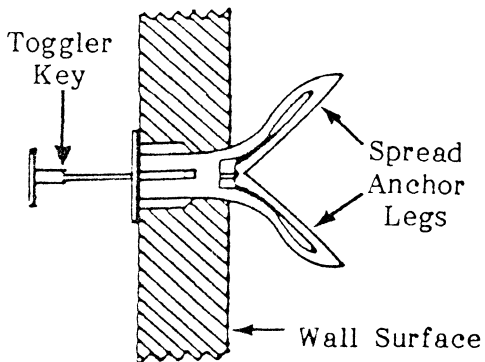

FIGURE 5
01.22 Insert a toggler key into the small hole in the neck of each fastener, as shown in Figure 5. This should cause the anchor legs to "pop" open. Remove the toggler key.